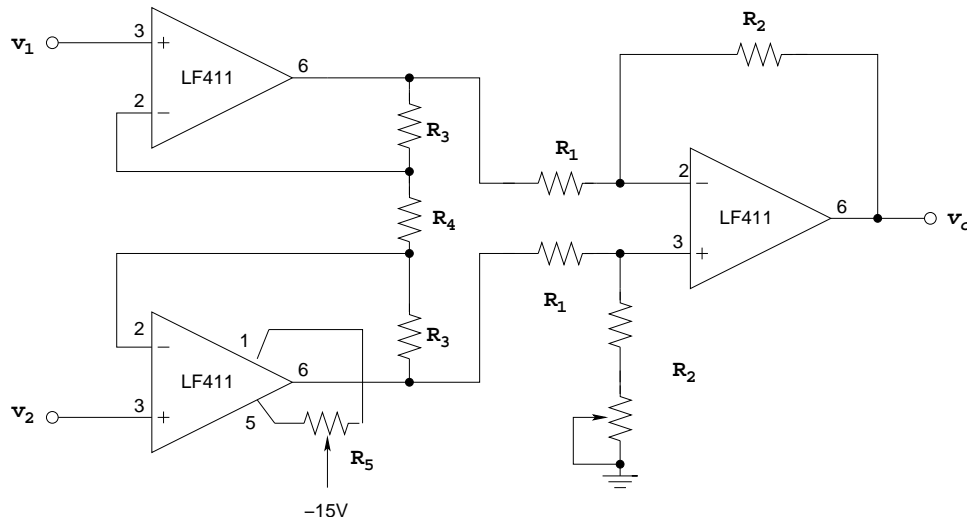

Figure 3.
4. Convert your differential amplifier to the classical ‘instrumentation amplifier’ shown (Figure 3) by adding a non-inverting amplifier to each input. Use 411 op amps for each of the non-inverting stages. Lay the circuit out neatly. Select the resistance values to give the amplifier
2. Consider the instrumentation amplifier shown in Figure 3 and in Example 2.7 in Sedra and Smith. Design the amplifier with a total differential gain of about 600, that is $V_O = 600(V_1 - V_2)$ (the differential gain of 30 is part of this).